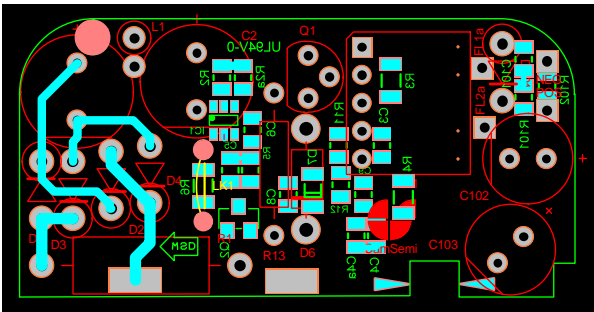

Figure 8: Input Bridge Rectifier Loops
There are two input bridge rectifier current loops, depending on which diode pair is conducting. Figure 8 shows a suitable layout.
- Input Rectifier Loops - Figure 8